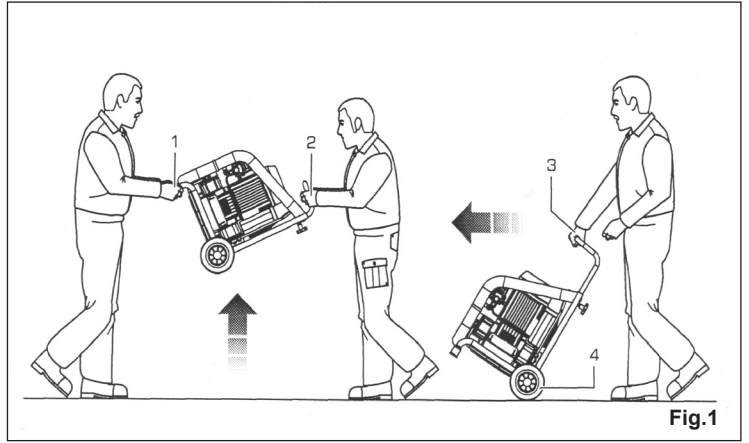

Fig.1
The SA3304 is fitted with an adjustable handle for ease to assist in the transportation of the compressor. The handle can be set either in a forward position (fig.1) or set in the rearward position as shown in fig.2.
1.3.2. When lifting the compressor, the handle must be in the forward position and locked in the lowest setting as shown in fig.1.